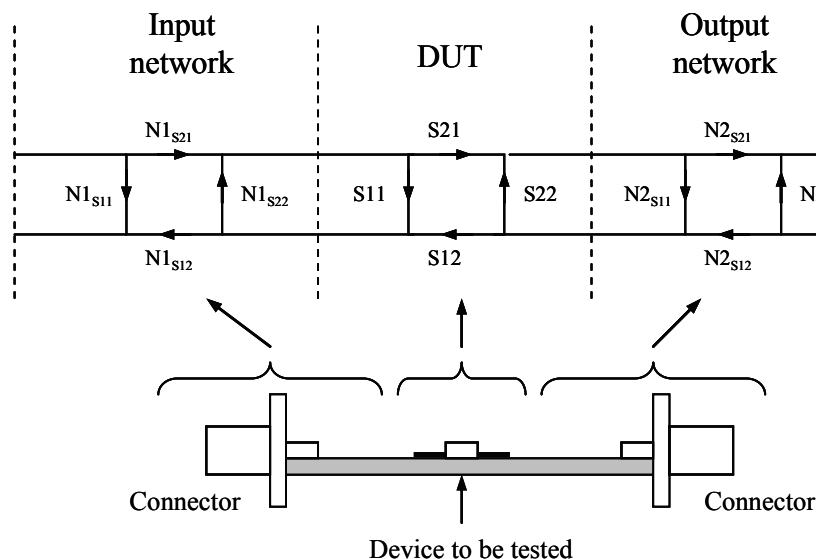

Figure 6.32 De-embedding allows the effects of the test jig's input and output networks to be removed.
The LA19-13-04A allows the user to specify s-parameter files (must be full 2 port data) for the input and output networks as shown in Fig. 6.32 so that the de-embedding takes place automatically as the instrument measures the test jig. After first calibrating as usual, follow the steps below to enable de-embedding.
1. Select the s-parameter file(s) that represent the embedding network(s) by clicking on the embedding network check box(es) as shown in Fig. 6.6. Check box 'Port 1 Network' represents the input network as shown in Fig. 6.32, and 'Port 2 Network' represents the output network. The files selected must be full 2-port s-parameters files in Touchstone® format.